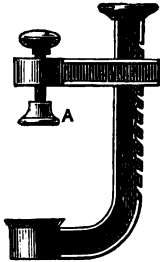

FIG. 5.—AMERICAN CLAMP.
One of the best and neatest clamps for this purpose, as well as for many others, is an American one (Fig. 5). It is of cast iron, bronzed, about 4in. long. The sliding arm has in the mortice a spring which causes the mortice to catch in any one of the little notches cut in the back of the clamp. It is easily moved into position, according to the thickness of the work, which is then further compressed by a turn or two of the screw. The piece (A) which rests on one side of the work, is capable of turning upon the end of the screw, and, being broad, forms a better face, and does not injure the surface of the work, as the end of the screw itself would do. One great recommendation of the tool is its cheapness. It is to be had of Mr. Churchill, of Finsbury, who imports all sorts of